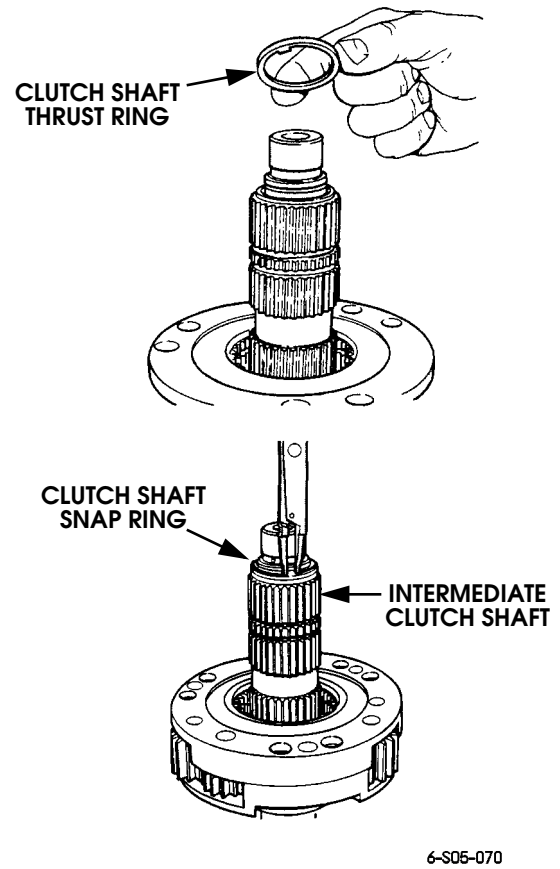

Figure 5-150: Intermediate Clutch Shaft Thrust Ring and Snap Ring Installation
14. Install clutch shaft thrust ring and snap ring (Figure 5-150).